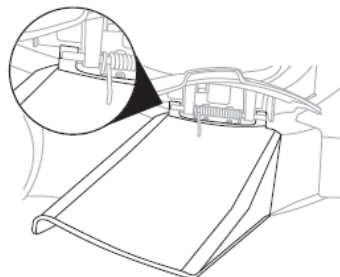

Fig.9B
4. Fit the side discharge chute for side-discharge mowing on the support pin of the flap. (Fig.9B)